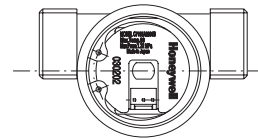

Fig. 5. Not recommended mounting position
- Provided the **shaft of the rotor is horizontal**, most positions are acceptable, but the position as indicated in fig. 5. is not recommended because water will remain in the sensor when the installation is drained (frost risk).